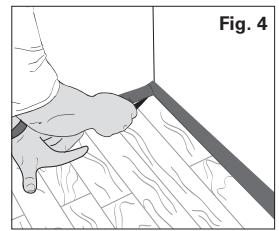

Fig. 4
- After the flooring is installed, trim the excess underlayment back to the height of the finished floor. Do this prior to installing base or molding (see Fig. 4).